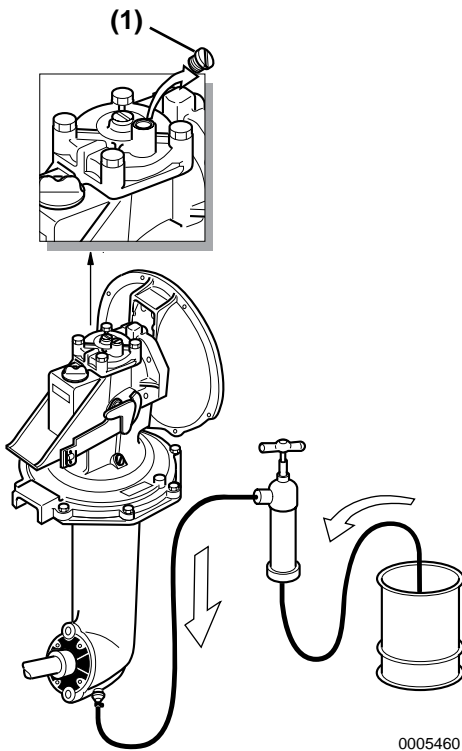

Figure 13
1. Connect the hose from the bottom and a suction hose to the Yanmar pump with hose clip (**Figure 13**).
2. Take out the plug from the upper case cover (**Figure 13, (1)**).